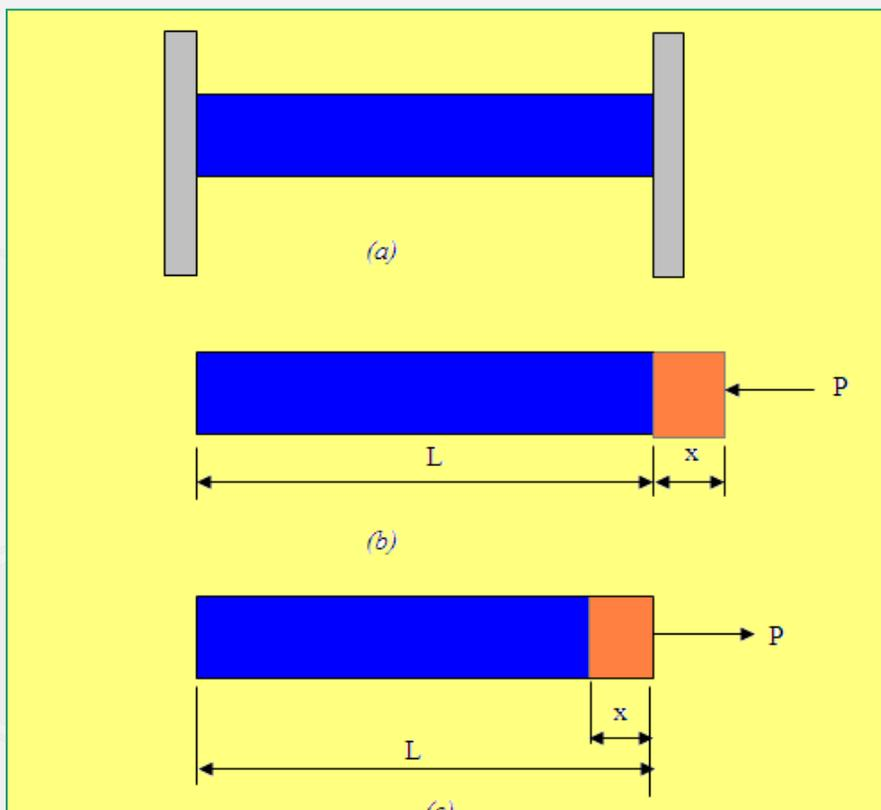

Figure 2.1. Temperature Stress
- In Figure 2.1 (a) a rod with length L , rigidly mounted on two walls. When the temperature is raised, the rod will expand as in Figure 2.1 (b) and Figure 2.1 (c), but the expansion did not occur due to blocked by the wall.